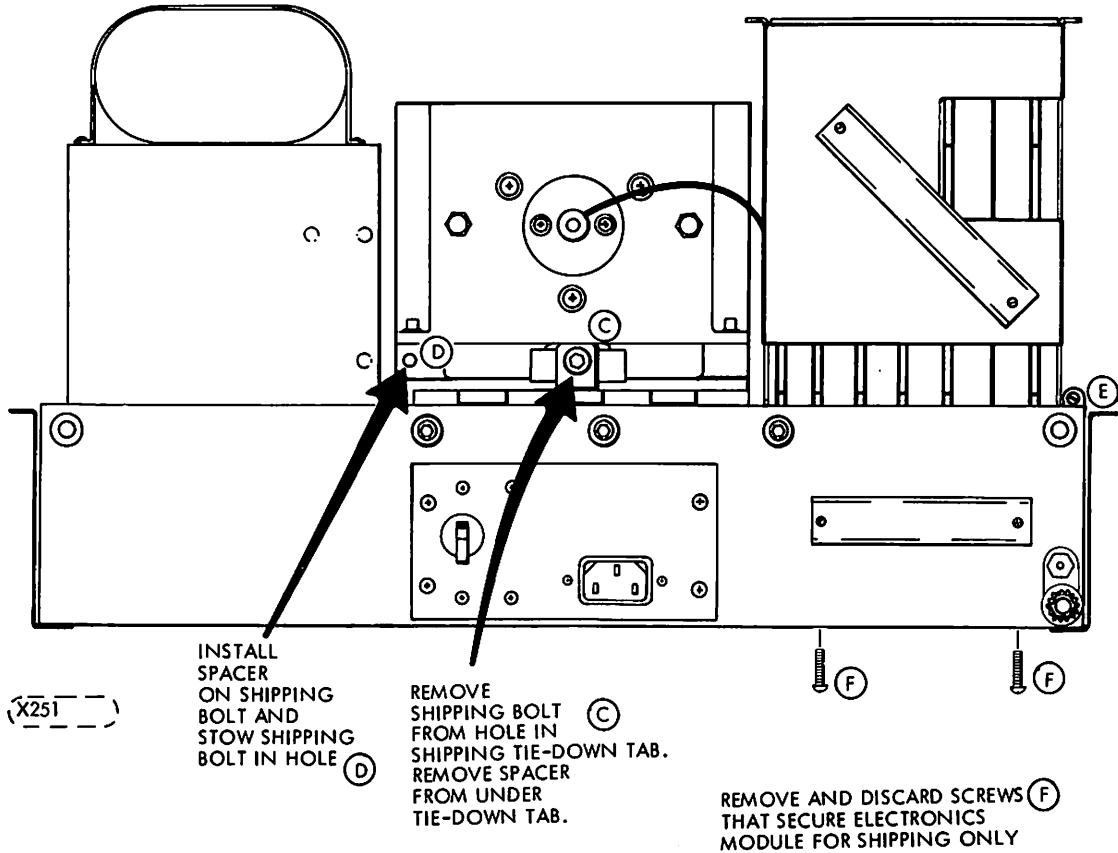

Figure 3-2. Rear Shipping Bolt Location
- D. Remove rear shipping bolt **C** of Figure 3-2, using a 3/16 inch hex driver. Stop the shipping bolt in the hold provided to the left of the magnet as shown at **D** in the figure. Before shipping this bolt must be installed in the center hole again.